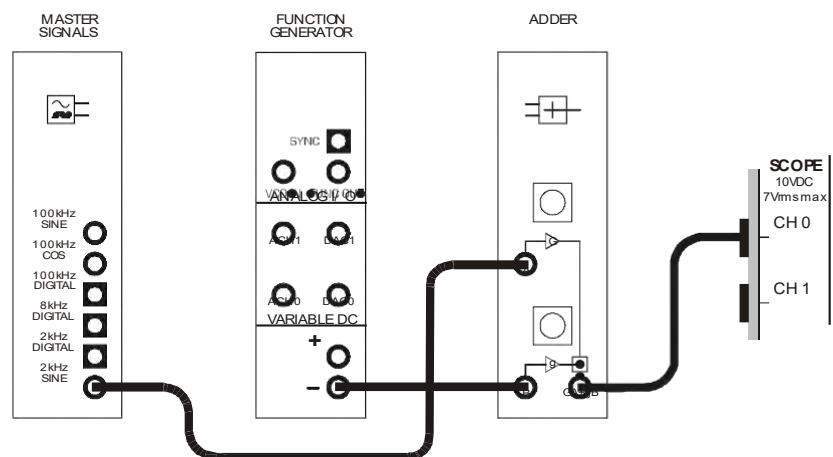
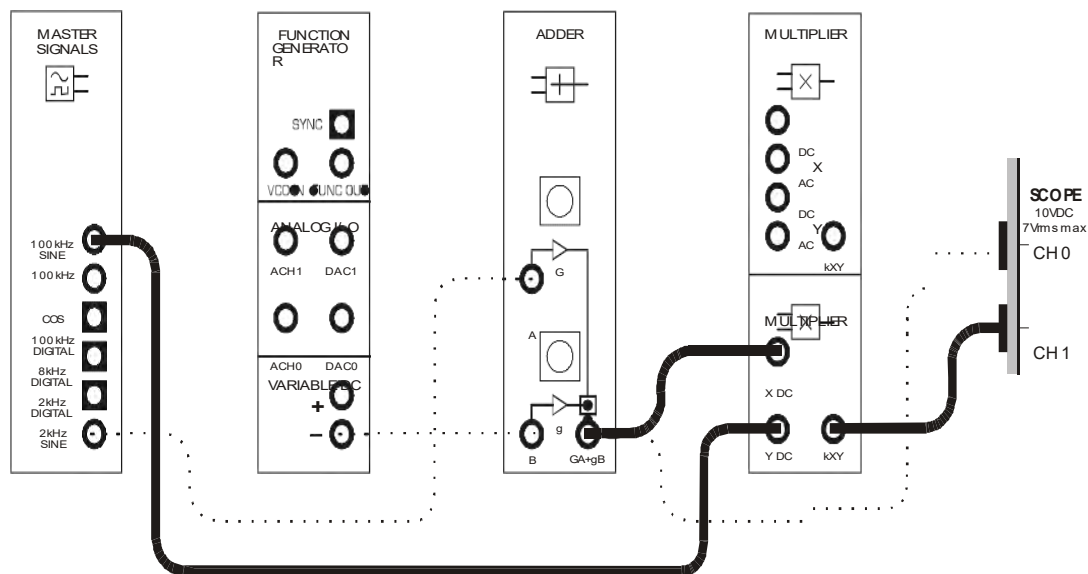

Figure 4
Figure 6
17. Connect the set-up shown in Figure 4 below.
21. Modify the set-up as shown in Figure 6 below.
The set-up in Figure 6 builds on Figure 4 so don't pull it apart. Existing wiring is shown as dotted lines to highlight the patch leads that you need to add.